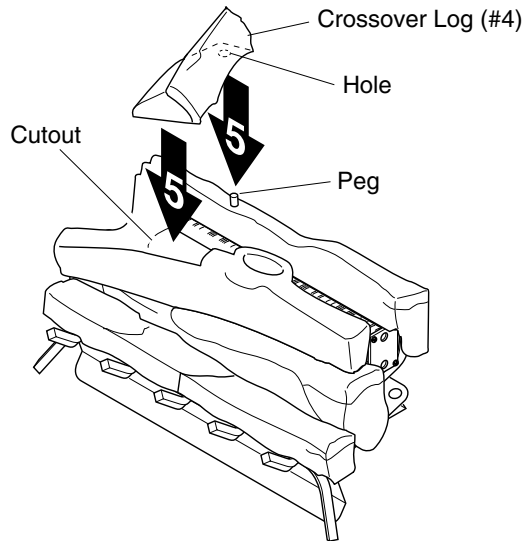

Figure 26 - Installing Crossover Log (#5)
4. Place the crossover log (#5) on the back log and the top middle log. Make sure the peg on the rear log is in the hole in the bottom of the crossover log. The crossover log should fit in the cutout of the top middle log (see Figure 26).